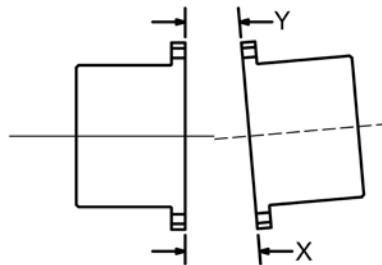
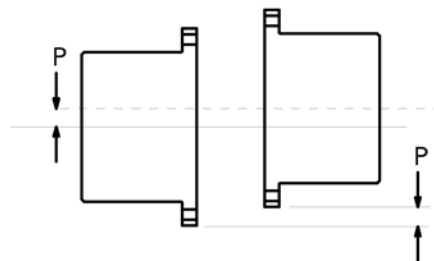

Figure 6 - Angular Misalignment
Figure 7 - Parallel Misalignment
- 7.2. Table 3 shows installation limits for Angular and Parallel alignment. The “Angular Alignment Total Indicator Reading” value is the maximum difference between the measurements (X-Y) taken at opposite ends of the hub flange, as shown in Figure 6. The “Parallel Alignment” value (P) is the offset between the centers of the hubs, as shown in Figure 7. If parallel offset is measured by rotating the hubs with a dial indicator on the outside diameter, the total indicated reading should be divided by (2) to calculate P.
- 7.3. The “Angular Misalignment” value is the maximum difference between the measurements X and Y taken at opposite ends of the hub flanges, as shown in Figure 6.
- 7.4. The “Parallel Misalignment” value (P) is the offset between the centers of the hubs, as shown in Figure 7.